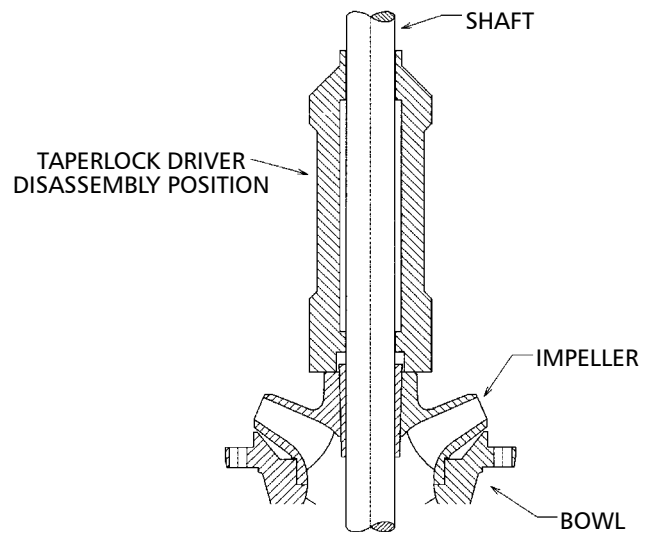

Figure 13
2. If the sand collar is not assembled to the shaft, install the sand collar. The sand collar is attached to the shaft with a shrink fit. The larger diameter of the counterbore of the sand collar goes toward the suction bell bearing. Heat the sand collar until it slips over the shaft and quickly position it so that the bottom of the sand collar is set according to the "X" dimension, before it cools. See Figure 13. See Table 1 for the "X" dimensions. Slide the plain end of the pump shaft into the suction bowl/bell bearing until the sand collar rests against the suction bowl/bell hub.